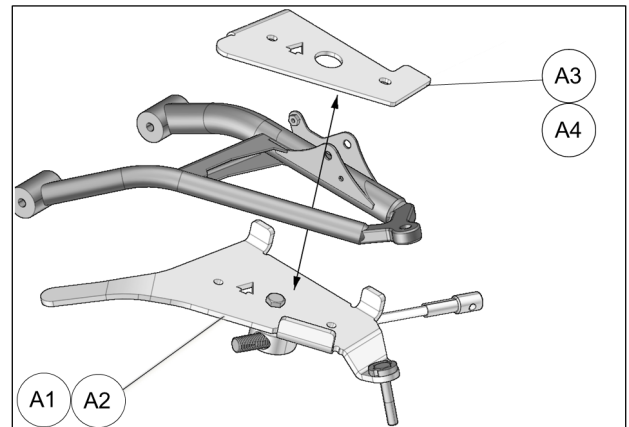

Fig. 19
11. Position the bottom part of the anchor bracket (A1-A2) underneath the lower suspension arm. Position the top part (A3-A4) over the suspension arm. See Fig. 19